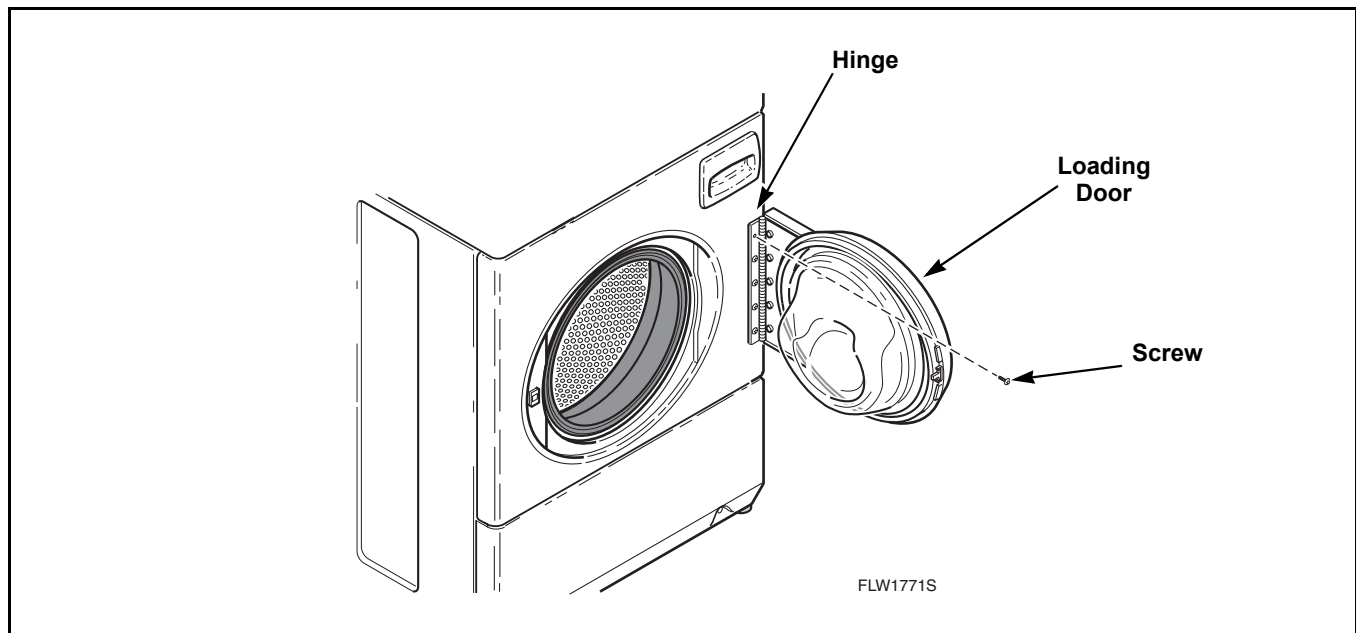

Figure 14
- The loading door can be adjusted up or down somewhat by loosening screws holding door hinge to front panel, then raise or lower door before retightening screws. Refer to *Figure 14*.